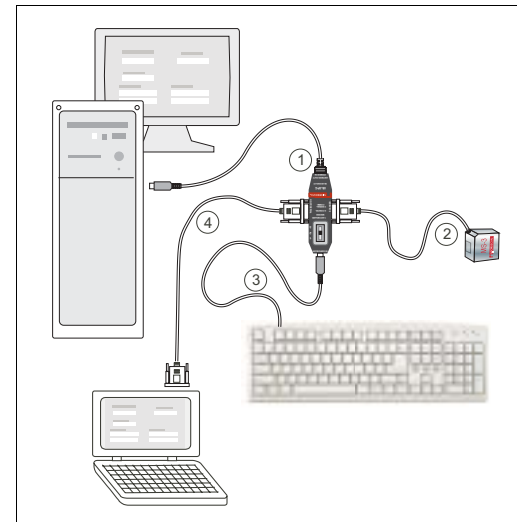

Figure 2-5 Alternative Configuration Setup
3. Connect the IB-3 PC (1) to the MS-3 (2) at the 15-pin "SCANNER" connector.
4. Connect the keyboard (3) to the IB-3 PC with the PS/2 plug.
5. Connect the IB-3 PC's cable (1) (extending from the "KEYBOARD OUT/ POWER IN" end) into the host's keyboard port.¹
6. Connect the DB-9 serial communications cable (4) to the host's RS-232 serial port (figure 2-4) or to an alternative configuration computer as shown in figure 2-5.